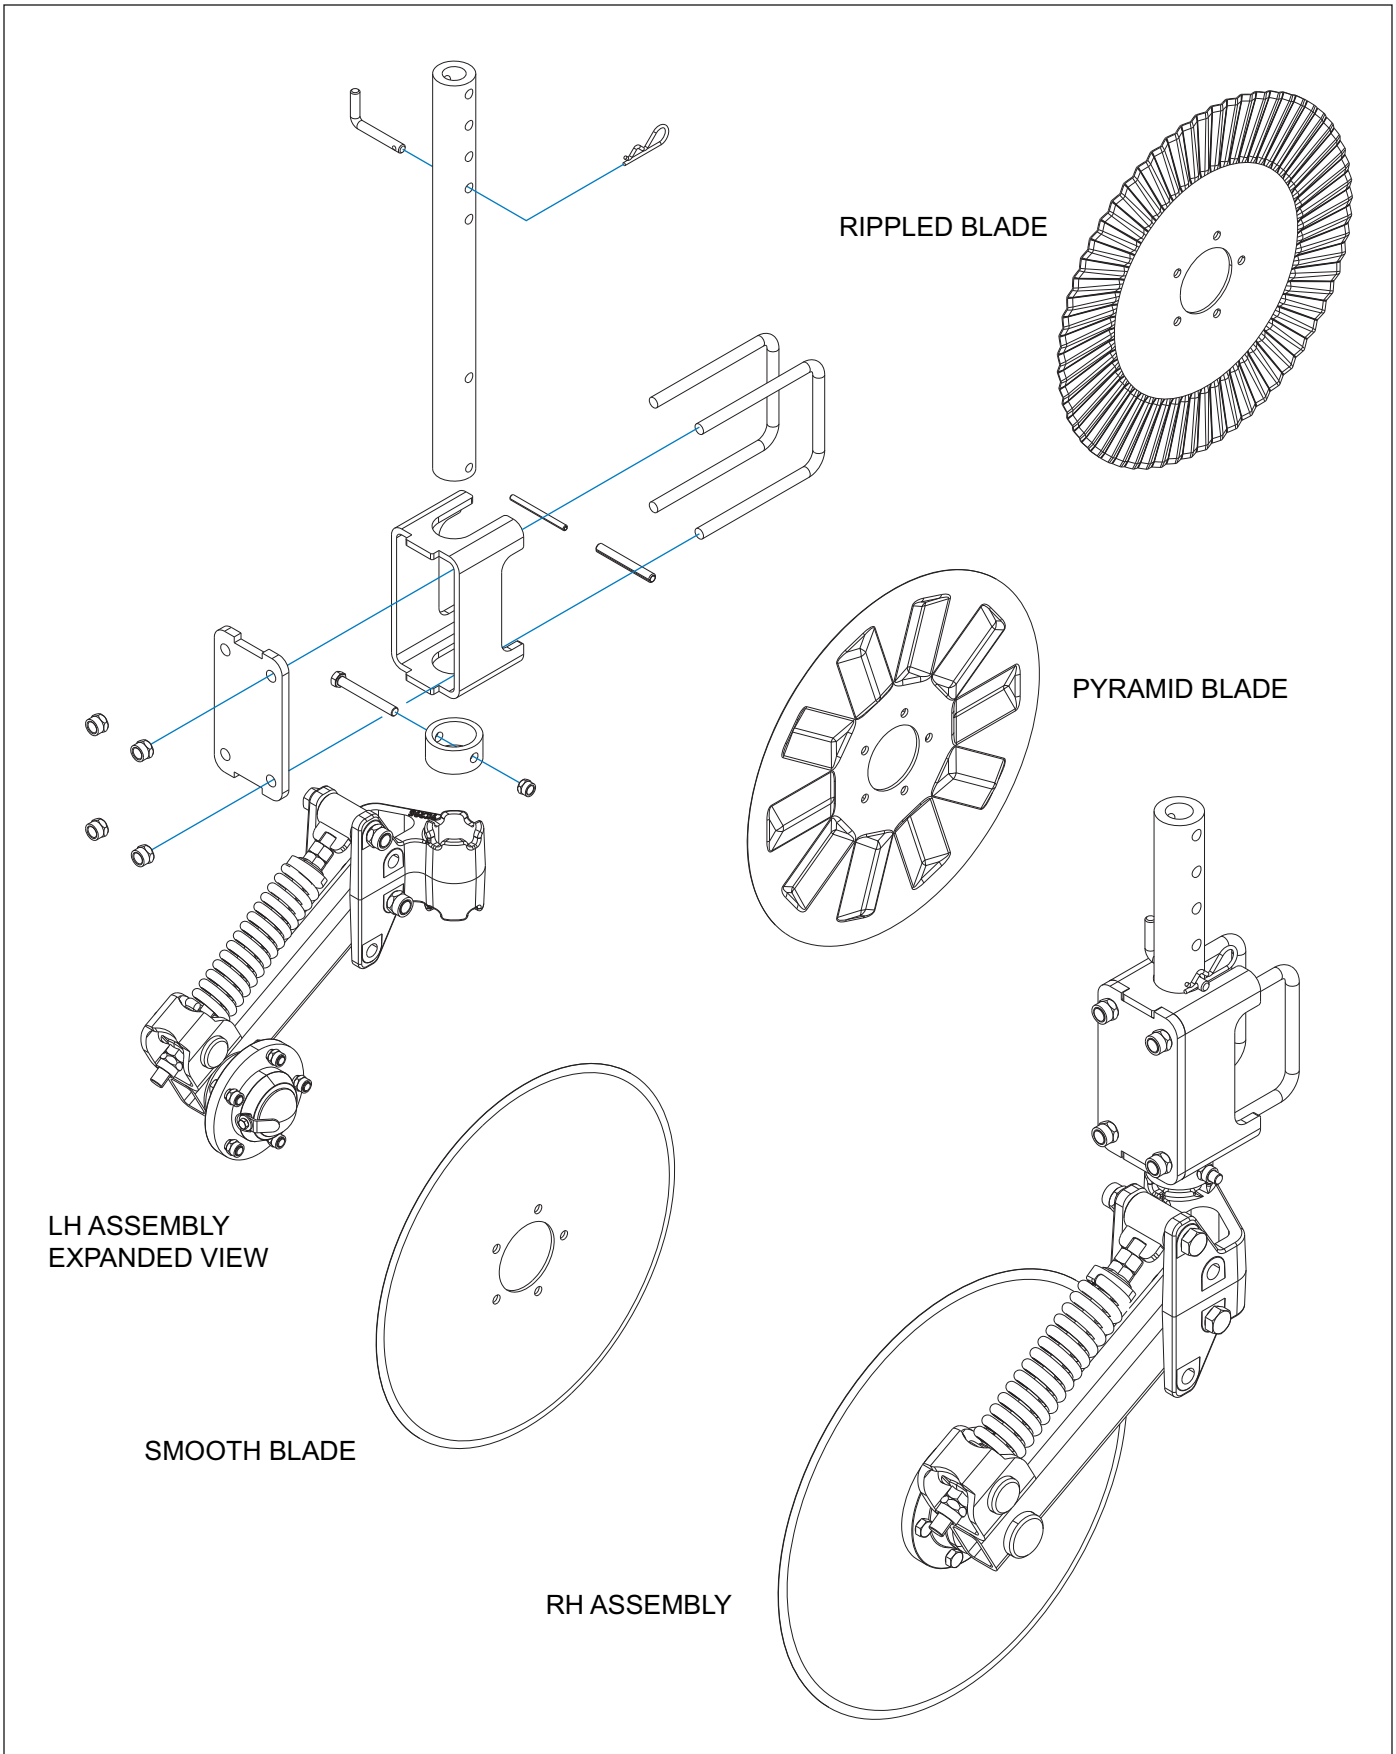

Figure 3-8: Coulters Assembly
1. Assemble couler adjustment tube to couler assembly using roll pins 1/2 x 4 and 5/16 x 4. Assemble the couler stop to the couler adjustment tube using 1/2 x 4 screw and nut. (See Figure 3-8.)